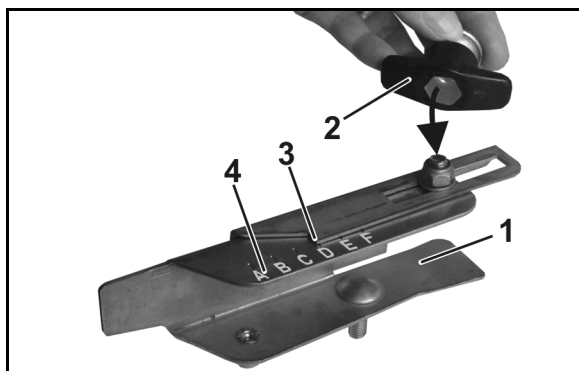

Fig. 79
- 3. Unscrew the screw connection of the outer section of the vane (Fig. 79/1) using the hexagon socket of the thumb nut (Fig. 79/2).
- 4. Set the read-off edge (Fig. 79/3) to the letter of the scale (Fig. 79/4) according to the setting chart and retighten the screw connection.